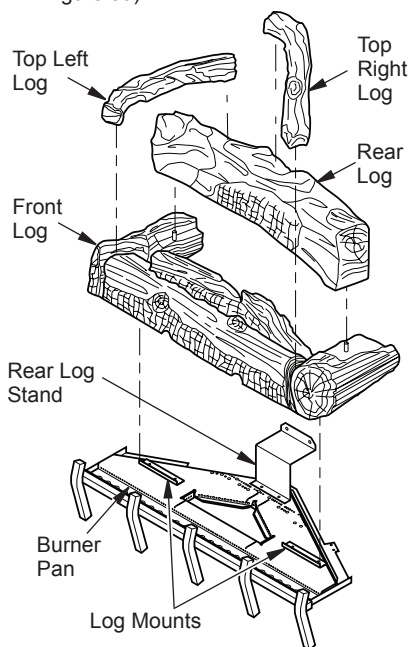

Figure 59 - Installing Logs
1. Position base log onto burner log mounts (see Figure 59). *Note:* Cut out on bottom should fit over mounts and base log should be positioned against rear panel.
2. Position holes on bottom of rear log over pins on base log (Figure 59).
3. Position top left log and top right log onto rear log and base log as shown in (see Figure 59).